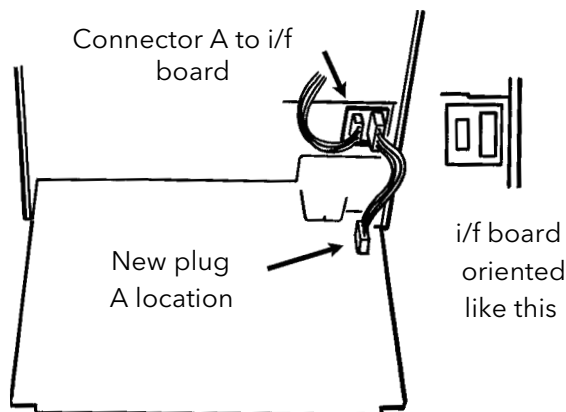

Figure 7a Reconnecting connector A
11. Take the small square circuit board (interface board) supplied, and remove the protective backing from the double-sided sticky-pad on the reverse side of the board. Stick the board to the recorder bulkhead as shown in figures 7a and 7b.
14. Remake connectors A using the interface (i/f) board as shown in figures 7a/b.